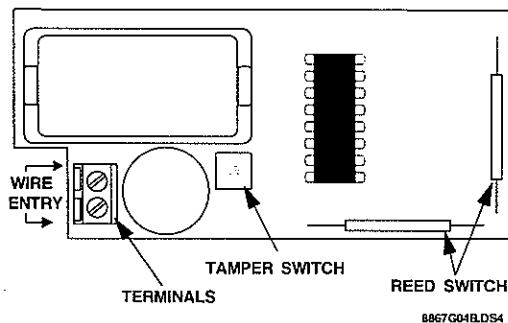

Figure 2. Door/Window Sensor Circuit Board
- 4) Remove the unused reed switch, clipping the leads as close to the board as possible (see Figure 2.)